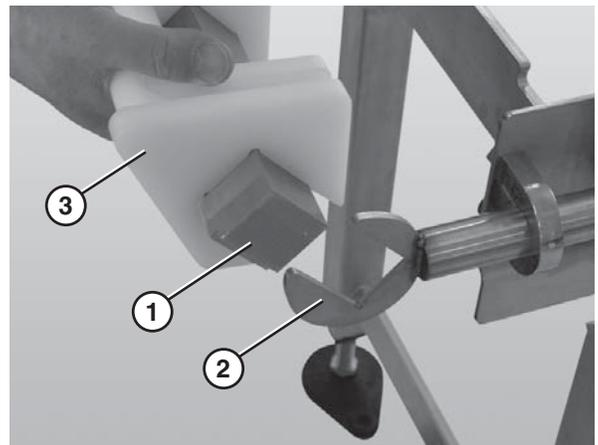

Figure 69
4. After all tracking pucks (**Figure 69, item 3**) are installed, slide the nose bar drive or transfer post (**Figure 69, item 1**) into of the nose bar drive weldment or idler hands (**Figure 69, item 2**).